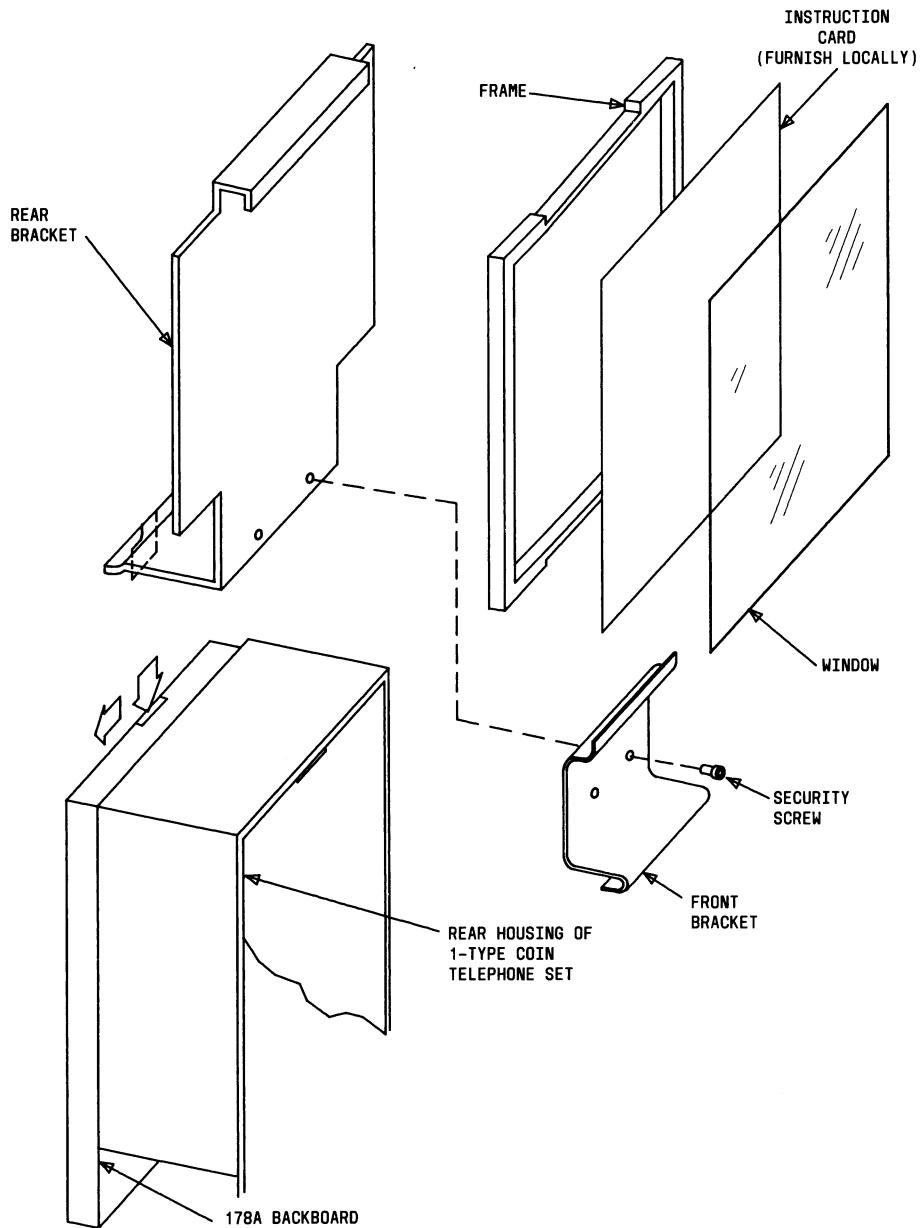

Fig. 23—Installation of 11A Card Holder
**3.30** Install as follows (Fig. 23).